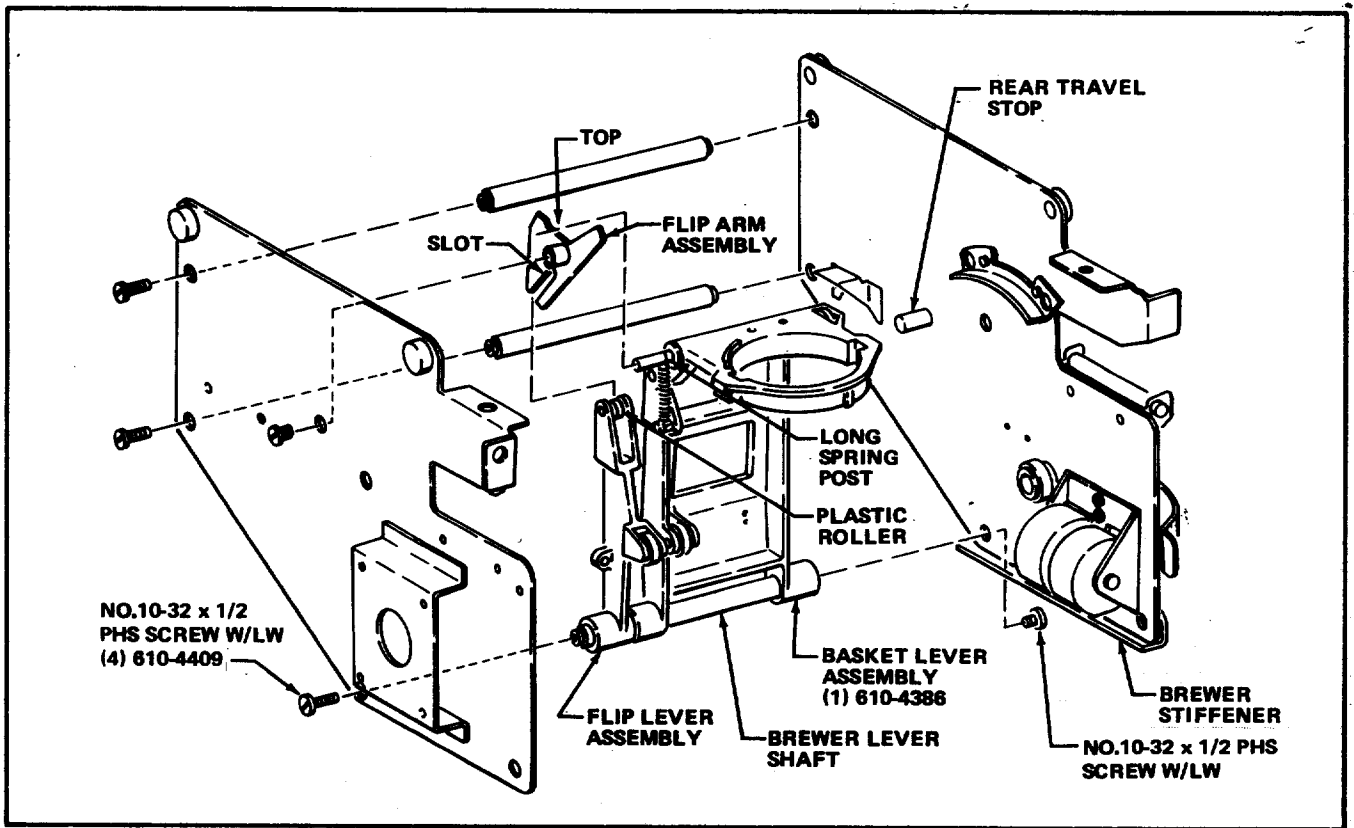

FIGURE 9
4. Install the Flip Lever Assembly, replacement Basket Lever Assembly and Brewer Lever Shaft making sure the Basket Lever Assembly is in the front of the rear Travel Stop and the longer Spring Post is on top of the Flip Arm Assembly; then adjust the Flip Arm Assembly and the Flip Lever Assembly, so the plastic roller fits into the slot of the Flip Arm Assembly. See Figure 9.
5. Align the ends of the Brewer Lever Shaft with the holes in the sidewalls, and position the free end of the Brewer Stiffener over the hole in the Right Sidewall and attach using the two No.10-32 x 1/2 PHS Screws with Lockwashers, Part Number 610-4409, included in the Kit. See Figure 9.